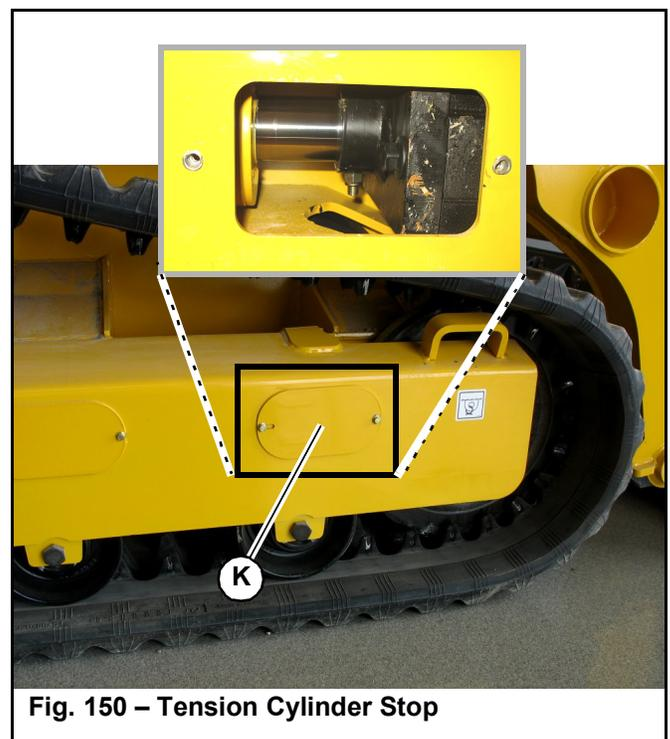

Fig. 150 – Tension Cylinder Stop
1. With the machine running and the drive system not moving, remove tension cylinder stop (K, Fig. 150) on the side on the machine with the track to be replaced.